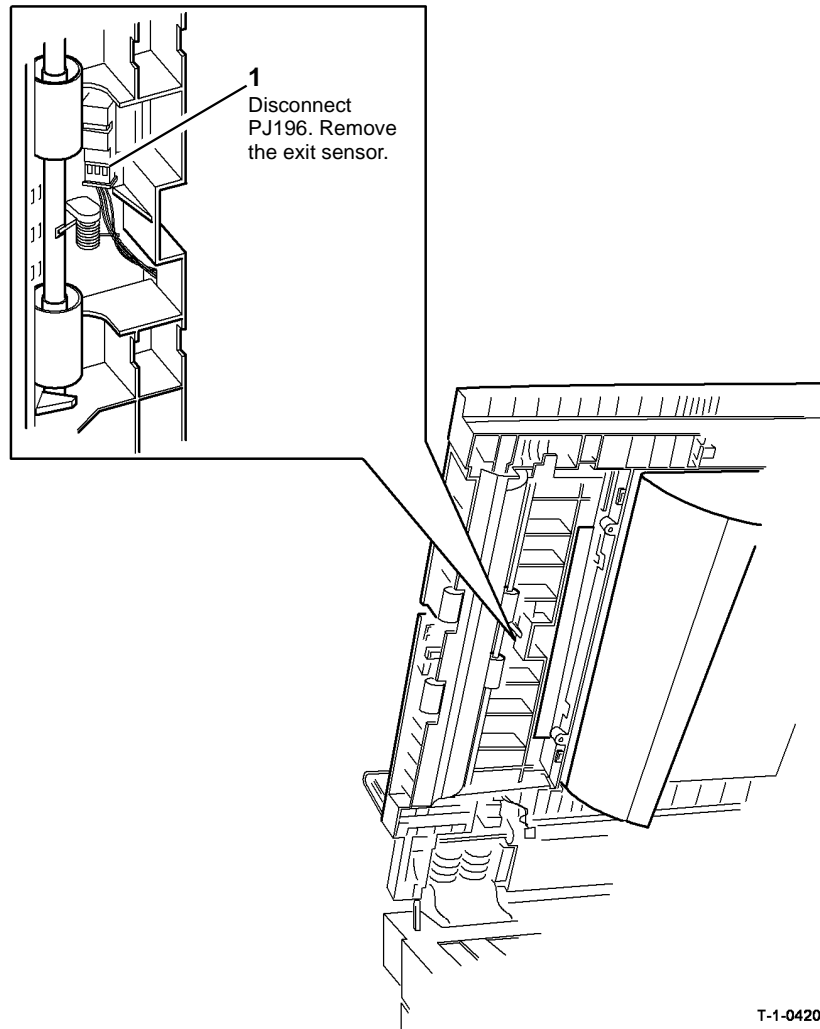

Figure 2 Exit sensor
3. Remove the exit sensor, Figure 2.